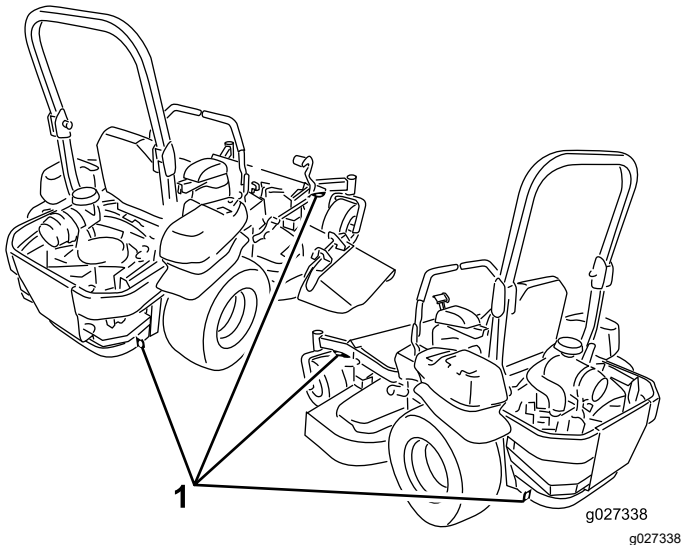

Figure 45
6. Tie down the machine near the front caster wheels and the rear frame with straps, chains, cable, or ropes (Figure 45). Refer to local regulations for tie-down requirements.